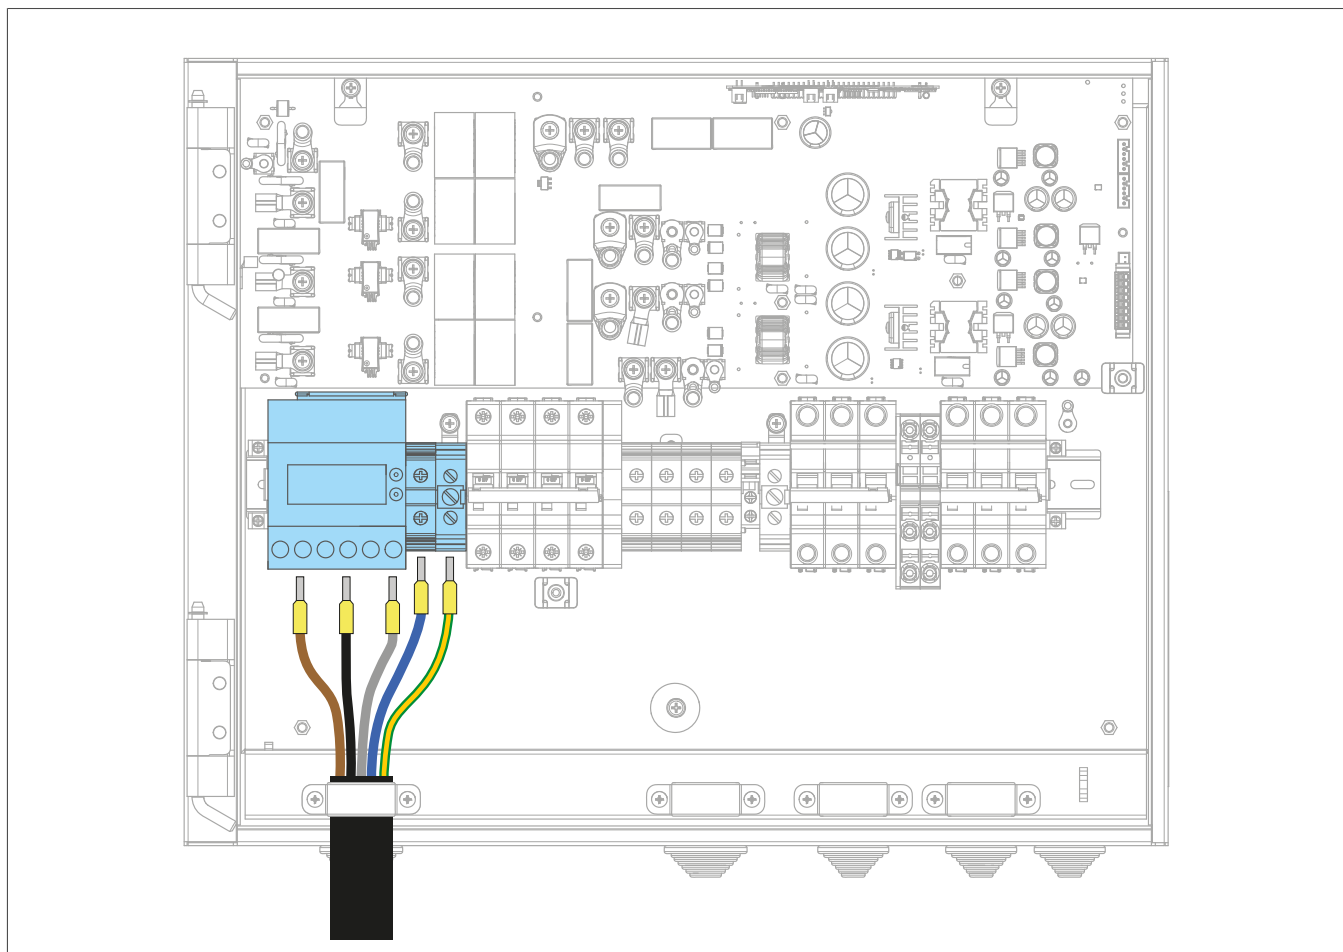

Fig. 25: Connecting the energy meter
- 5 Connect the cores (see Fig. 25).